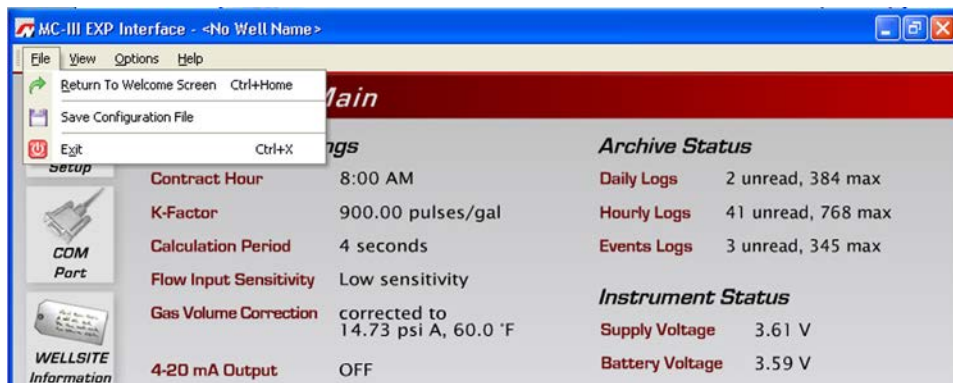
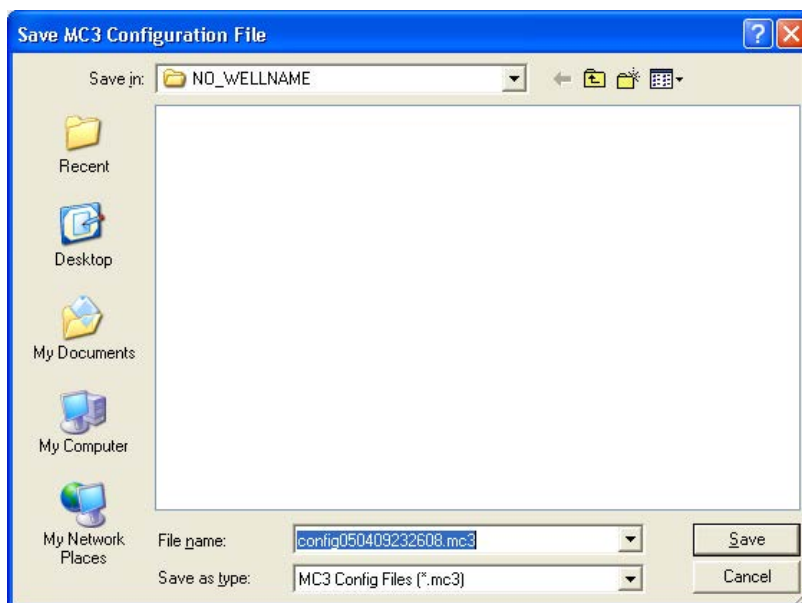

Figure 4.35—File dropdown menu allows user to save a configuration file
Figure 4.36—Default directory for configuration files
1. Select File>Save Configuration File (Figure 4.35). A "Save MC3 Configuration File" screen (Figure 4.36) will appear, prompting the user to save the file to the computer hard drive. The default directory is C:\Nu-Flo log data\MC-III\<WELL NAME>, however the user can specify a new location, if desired.
The “wellname” folder will bear the well name that appears on the Wellsite Information screen. If no well name is entered on this screen, the folder will be named “NO\_WELLNAME” (*Figure 4.36, page 71*).